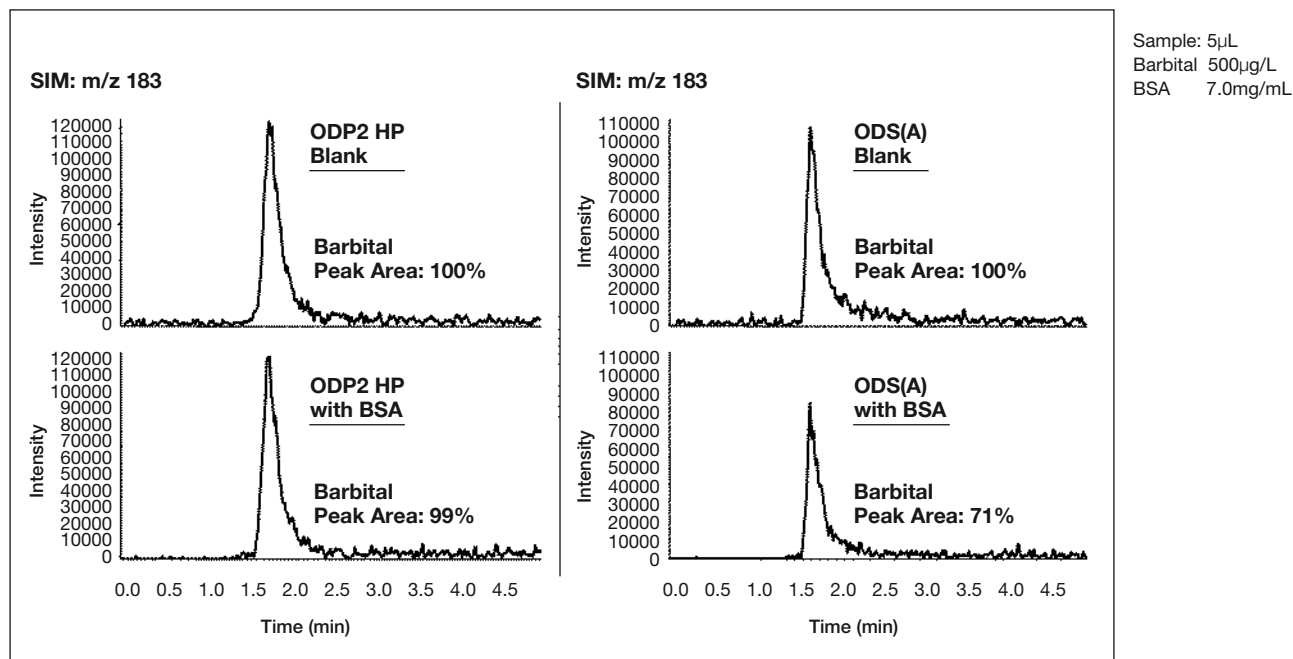
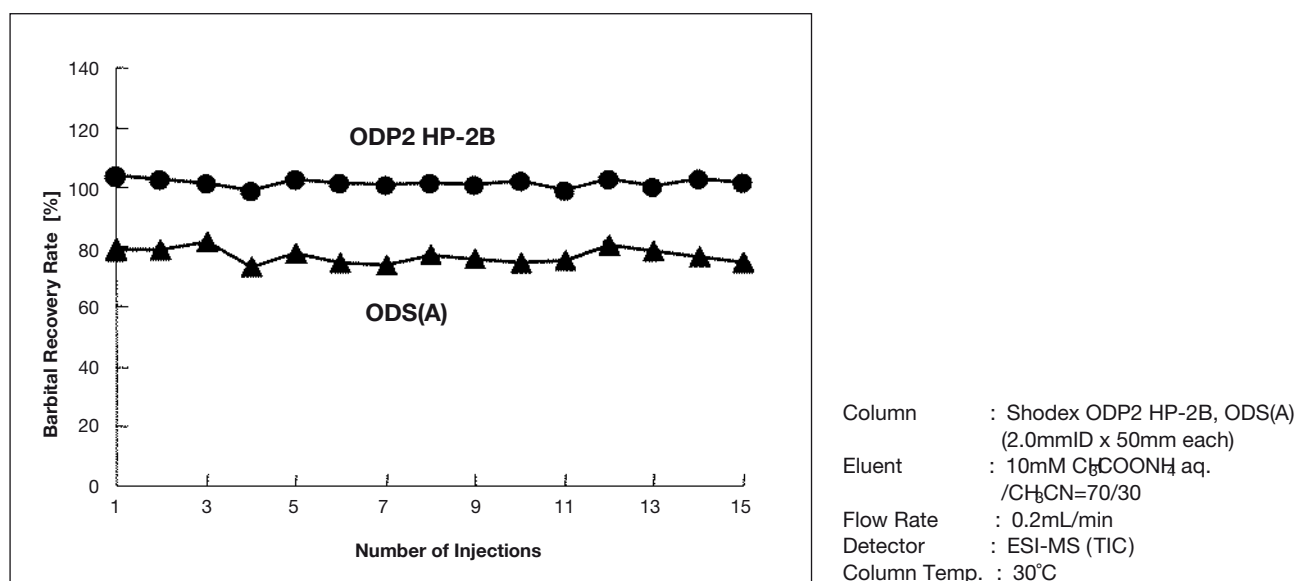

Fig. 2-8 Recovery Rate of Barbital in BSA (LC/MS)
Fig. 2-9 Recovery Rate of Barbital in BSA with Additional Injections
Four LC/MS chromatograms of barbital analysis are shown in figure 2-8 along with barbital recovery rates in figure 2-9. These compare ODP2 HP-2B and a well end-capped ODS column, ODS (A)\*\*, for the detection of barbital without BSA and with BSA. ODP2 HP-2B showed good separation of protein and drug, with little ion suppression effect and high barbital recovery rate even after repeated injections. On the other hand, ODS (A) with BSA showed smaller barbital peak and lower recovery rate compared with ODS (A) without BSA due to ion suppression caused by protein.